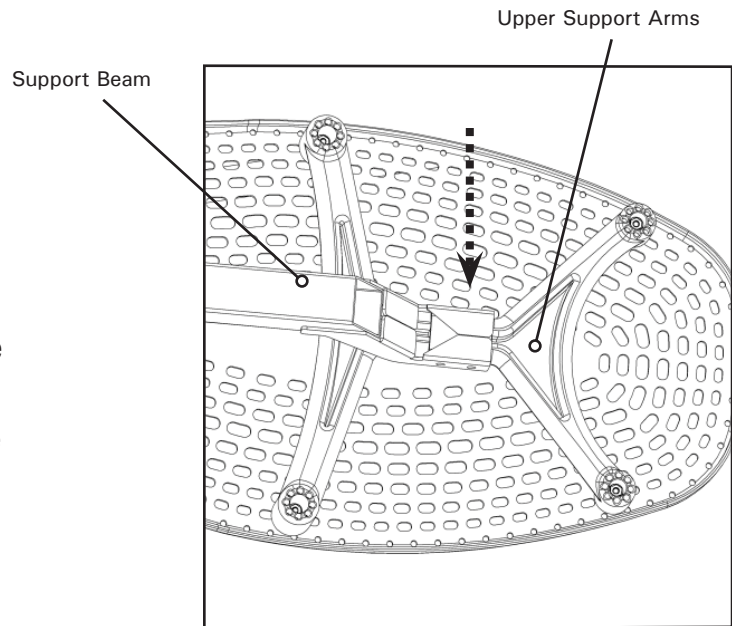

Figure 3
- Place the Table Bed face down on the floor and push down on the Support Beam, so the two holes align evenly with holes at the base of Upper Support Arms (Figure 3). You may have to exert extra pressure to ensure the Support Beam slides over the rubber spacers.